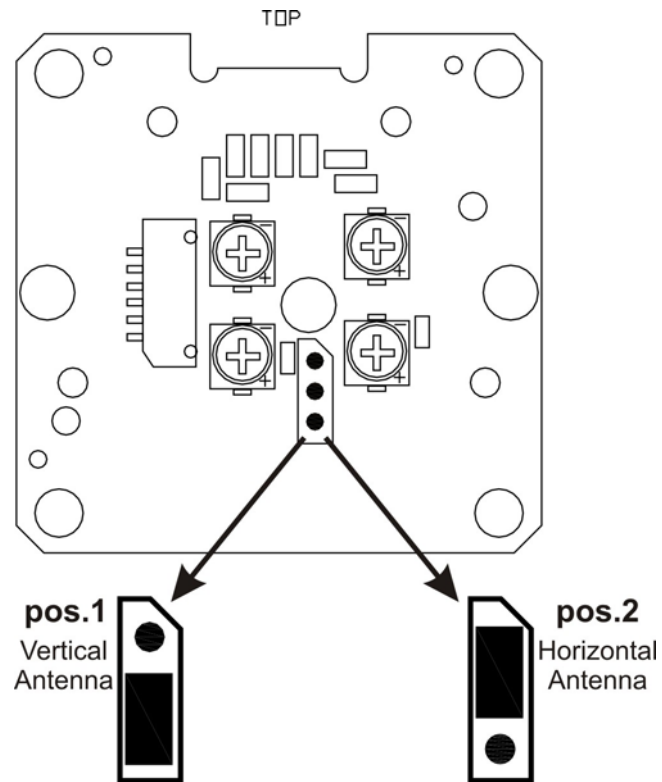

Figure 2-7. Jumper for Antenna
Figure 2-7 shows the dimensions and mounting holes for the Datalogic Automation tags. For information on tag mounting spacers, see section 2.4 *Mounting the C827* on page 2-8.
Select the jumper position according to the desired Antenna orientation, vertical Antenna (Default pos.1) or horizontal Antenna (pos.2), see Figure 2-7.